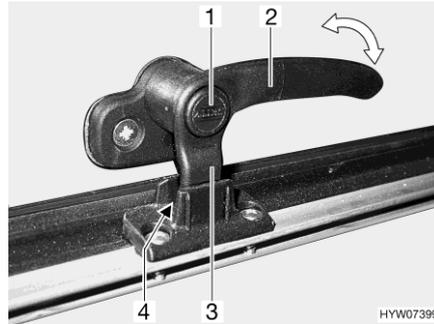
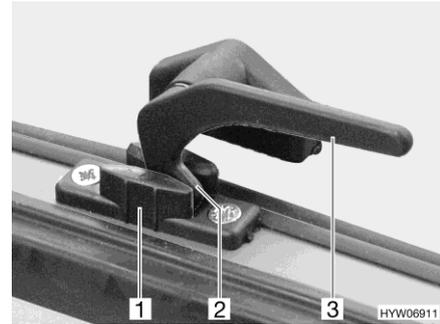

Fig. 124 Catch lever with safety knob in "continuous ventilation" position
Fig. 125 Catch lever in "continuous ventilation" position
- "Continuous ventilation" (Fig. 124 and Fig. 125)
- Press and hold the security button (Fig. 124,1), if present.
- Turn all catch levers (Fig. 124,2 or Fig. 125,3) a quarter turn towards the centre of the skylight.
- Return all catch levers to their initial position. The locking catch (Fig. 124,3 or Fig. 125,2) has to be moved into the recess of the skylight lock (Fig. 124,4 or Fig. 125,1).